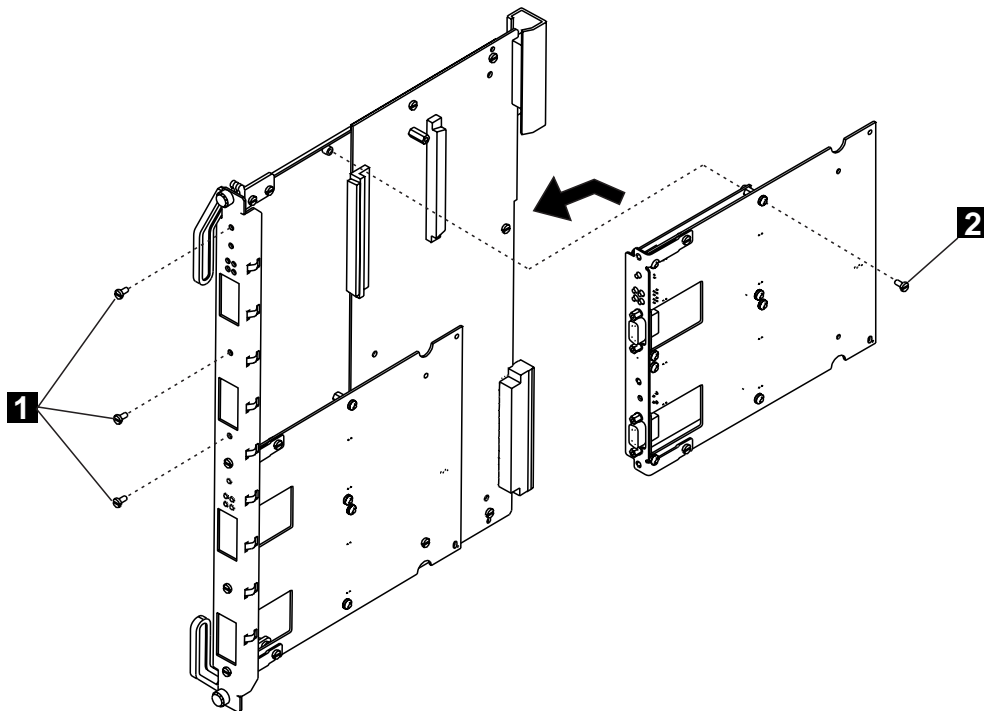

Figure 4-9. Reattaching the Motherboard
- i** Reattach the motherboard to the module using the four screws (**1** and **2** in Figure 4-9) that originally held the motherboard.